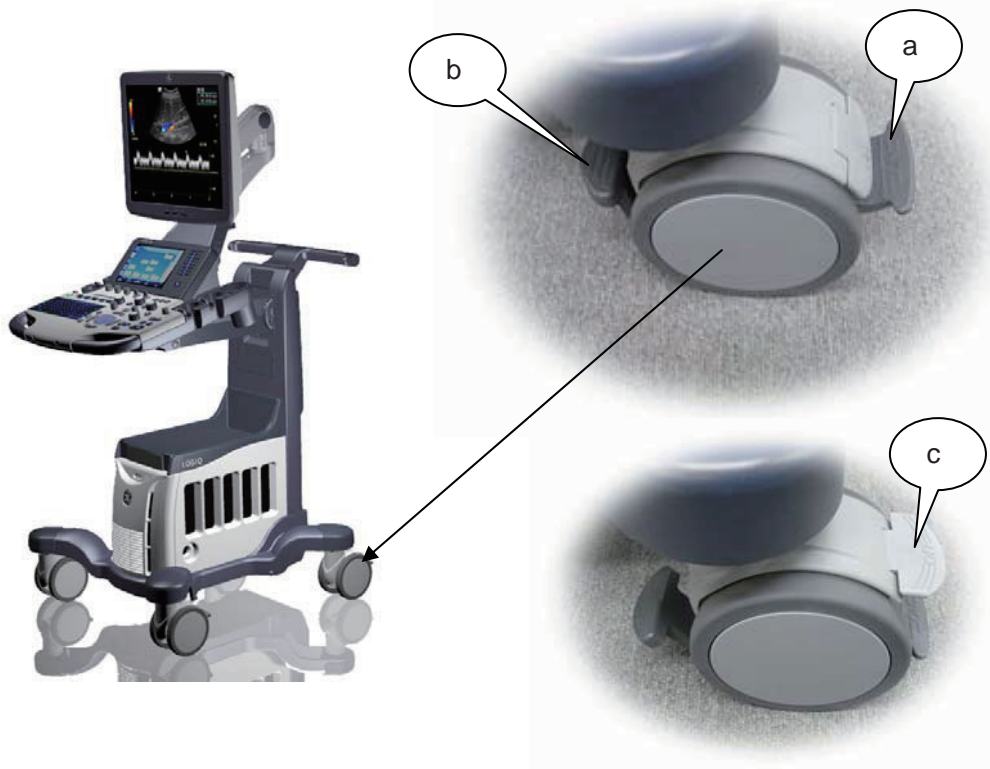

Figure 4-8 Right Rear Caster
- 1.) Press 'a'. (see: Figure 4-8)
- 4.) Press 'b' downward. (see: Figure 4-8)
- 8.) Press 'c'. (see: Figure 4-8)